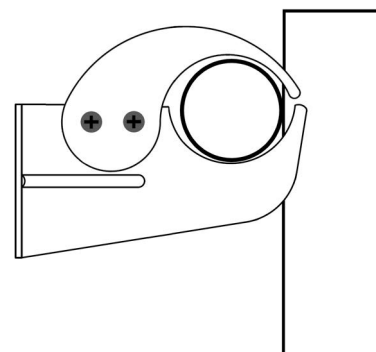

Figure 8 | Securing Safety Hooks
- a. Close the Safety Hook over the radiator collector bar (see **Figure 8**).